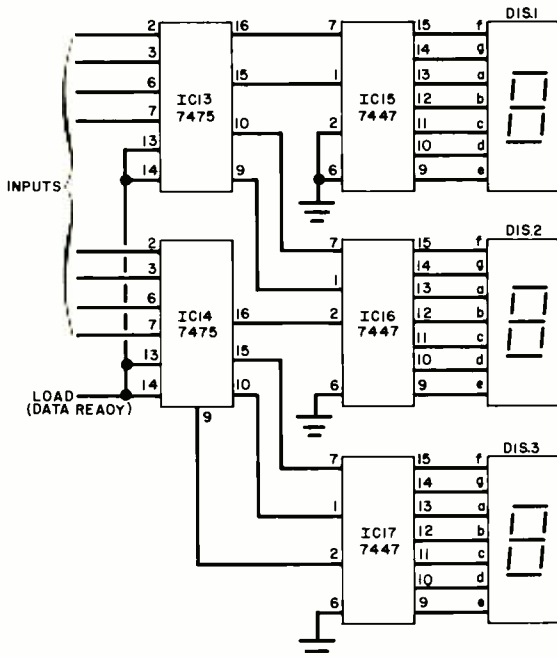

Fig. 4. Complete logic of the receiver with 7-segment readouts.
**Receiver.** Shown in Fig. 4 is the receiver portion of the system, consisting of latches IC13 and IC14 (each with four D flip-flops for a total of eight flip-flops); IC15, IC16, and IC17 4-bit binary to 7-segment decoders; and DIS1, DIS2, and DIS3 7-segment display readouts.